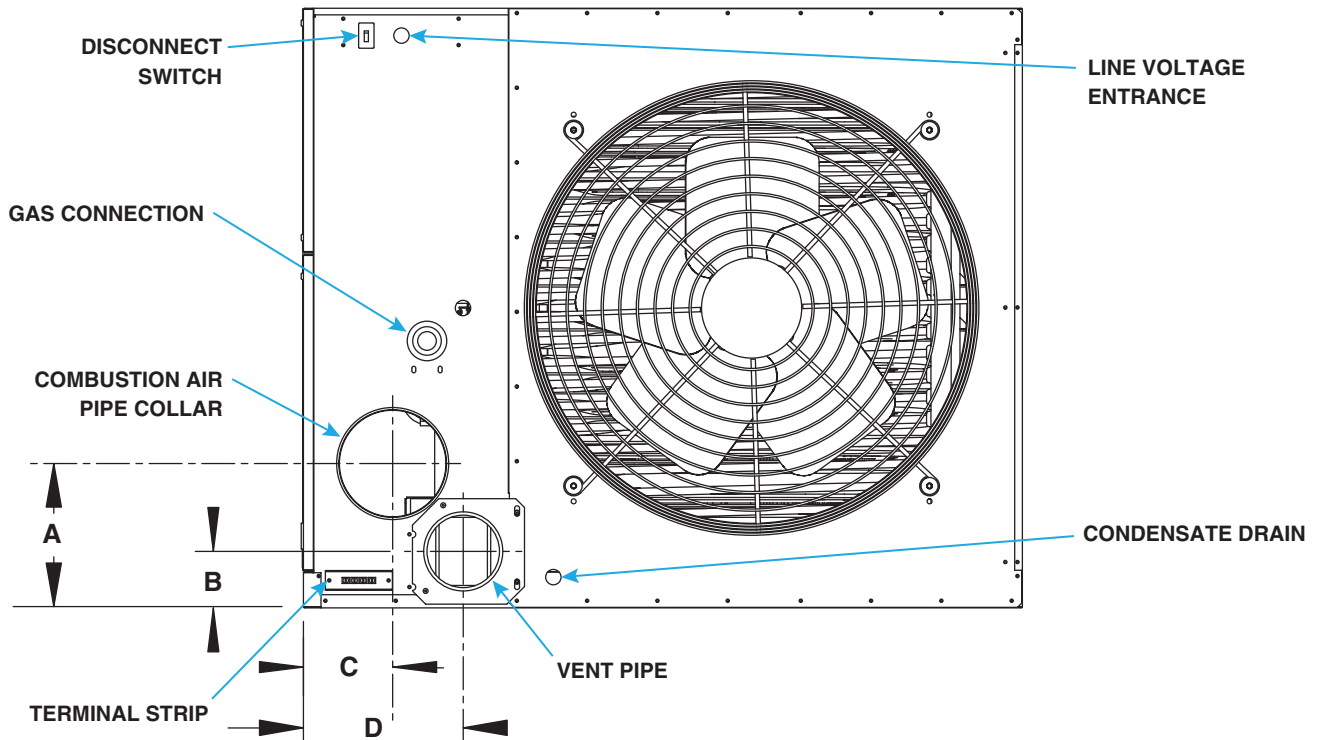

Figure 5. Connections at Rear of Unit—Unit Sizes 130–310 (Refer to Table 10)
- **Venter outlet and combustion air inlet:** located at rear of heater (see Figure 5).
Dimension (See Figure 5) or Connection	Unit Size (MBTUh)